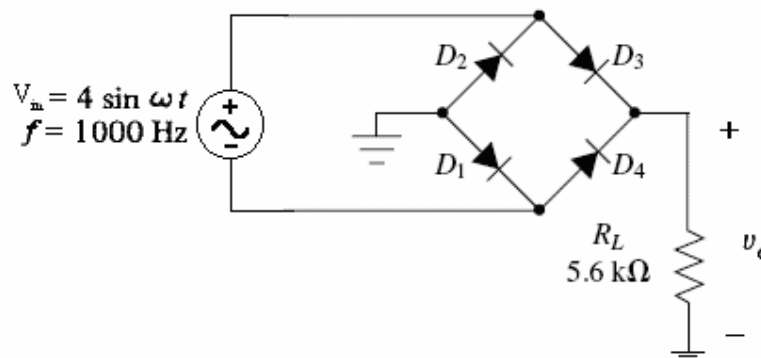

Fig.6: Bridge Rectifier.
14. Construct the circuit shown in Figure 6. Sketch the input and output waveforms. Then, measure the DC load voltage using DMM.
1. Use the appropriate relationships to calculate V_O for each circuit. Compare these values with your results in Steps (2,) (10), and (14). Explain any differences between the measured and the calculated values.
2. Using the results of step (2), calculate the peak values of the current $i(t)$ and sketch its waveform.
3. At part (2), you used eq(4) to calculate the DC level of the output waveform V_O . Derive this equation.
4. Refer to Figure 6. Explain how you would modify this circuit to obtain a negative load voltage.